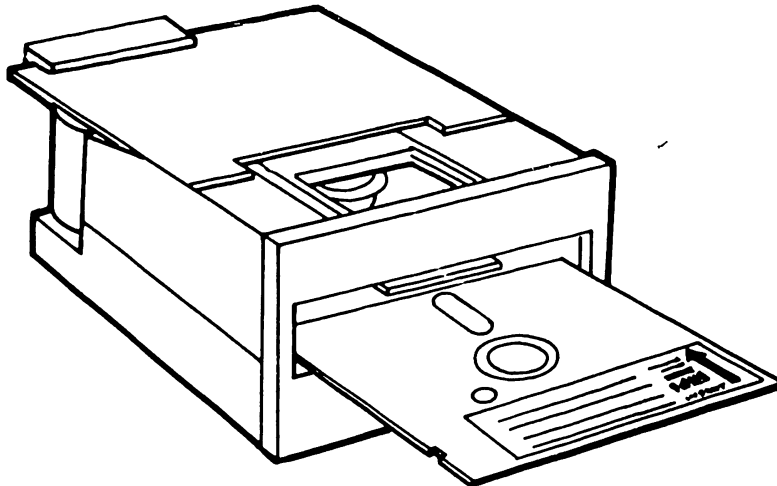

Figure 2-2: Diskette Orientation
- C. Remove diskette from its storage envelope and insert in the drive. The index hole must be on the left side of the jacket and the label on the right towards the door. (See Figure 2-2.)